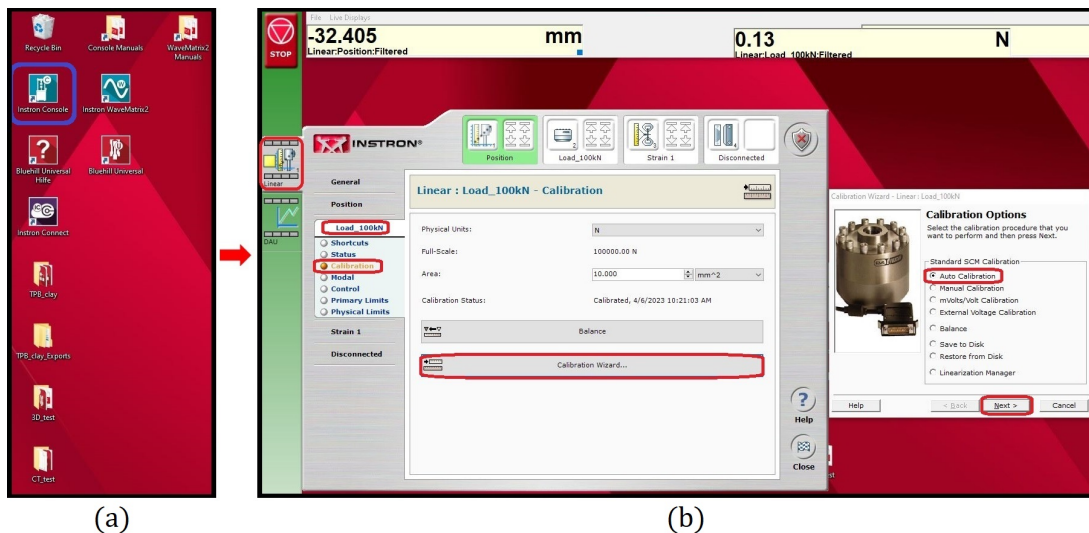

Figure 5: (a) Running the Instron Console software and (b) auto-calibrating the load cell.
1. Run *Instron Console* software (see Figure 5 (a)). Change the running status of the machine to high-power via rotating the switch denoted by #4 (in Figure 1) to its right-most position.
2. In Console, in *Linear*, press *Load_100kN* and then select *Calibration*. Run the *Calibration Wizard* and chose *Auto Calibration* to automatically calibrate the load cell (Figure 5 (b)). Follow on-screen instructions and wait for the calibration process to finish.